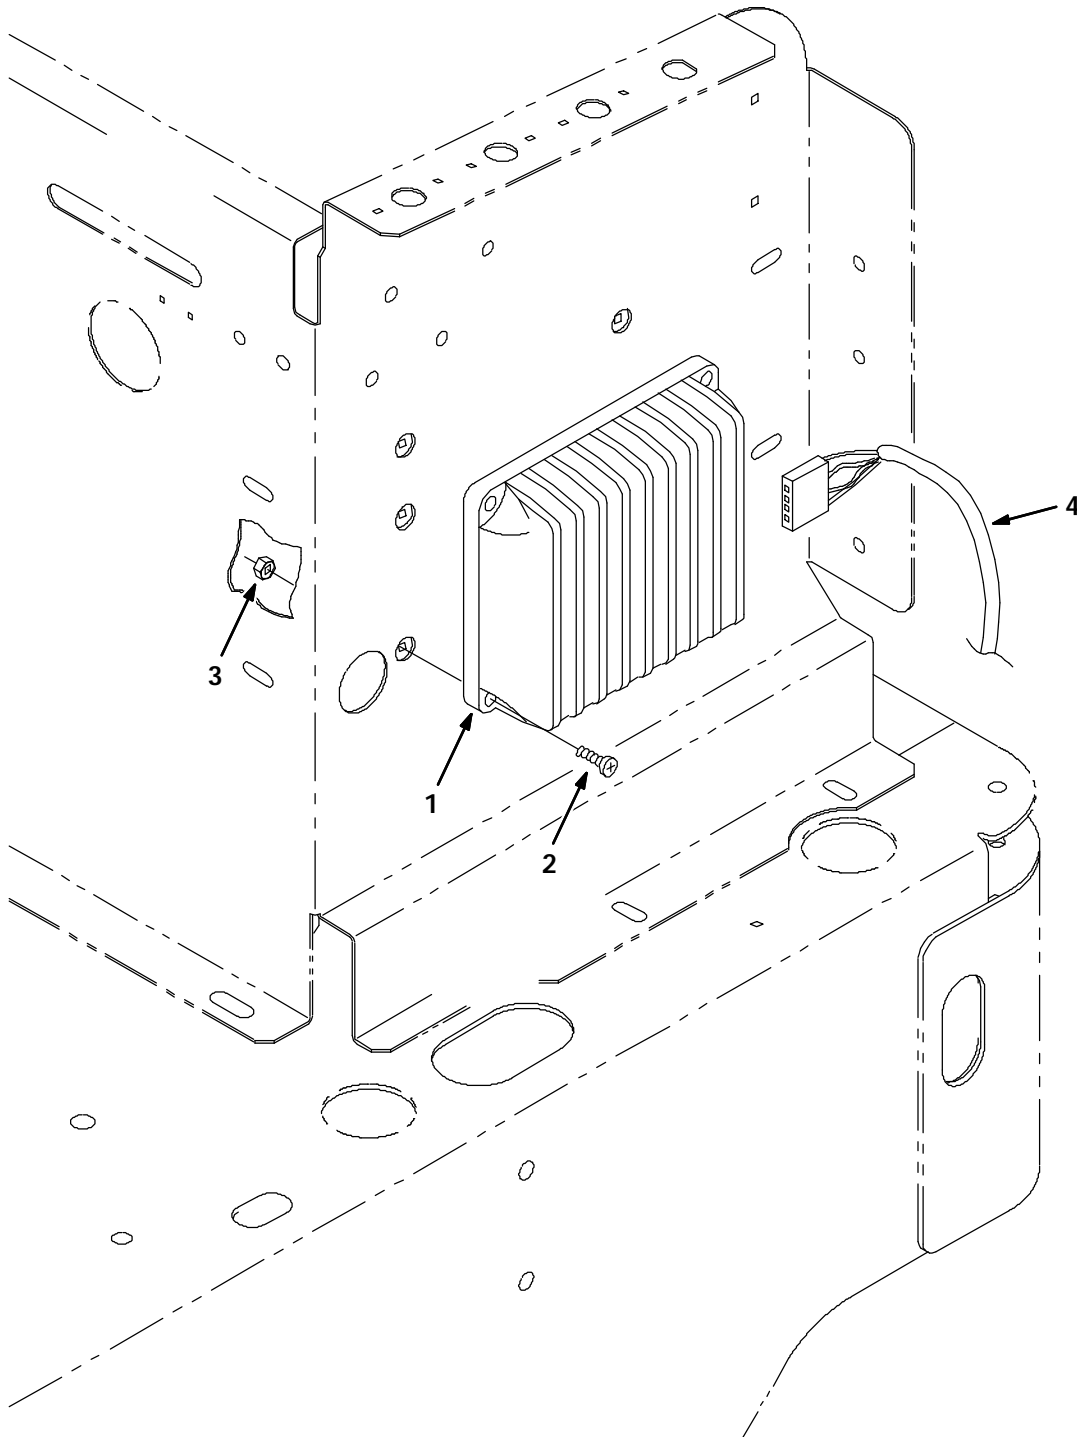

FIG. 1 - HEAVY DUTY CONTROLLER INSTALLATION
(Refer to FIG. 1 and 2)
8. Mount new controller box (1) with pan screws (2) and lock nuts (3). (Refer to FIG. 1 and 2)
9. Mount wire harness connection to controller box (1) with controller wire harness (4).